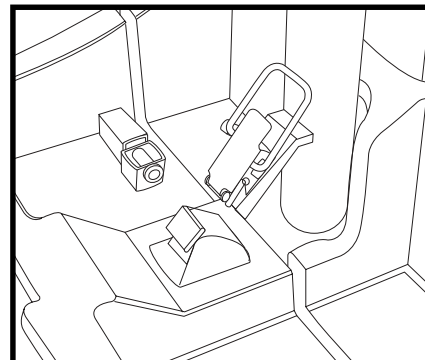

Figure 17B. Toggle Latch (Secured For Disassembly)
2. Secure the toggle latch buckle over the top of the toggle latch. See figure 17B.
5. Secure the toggle latch. See figure 17B.